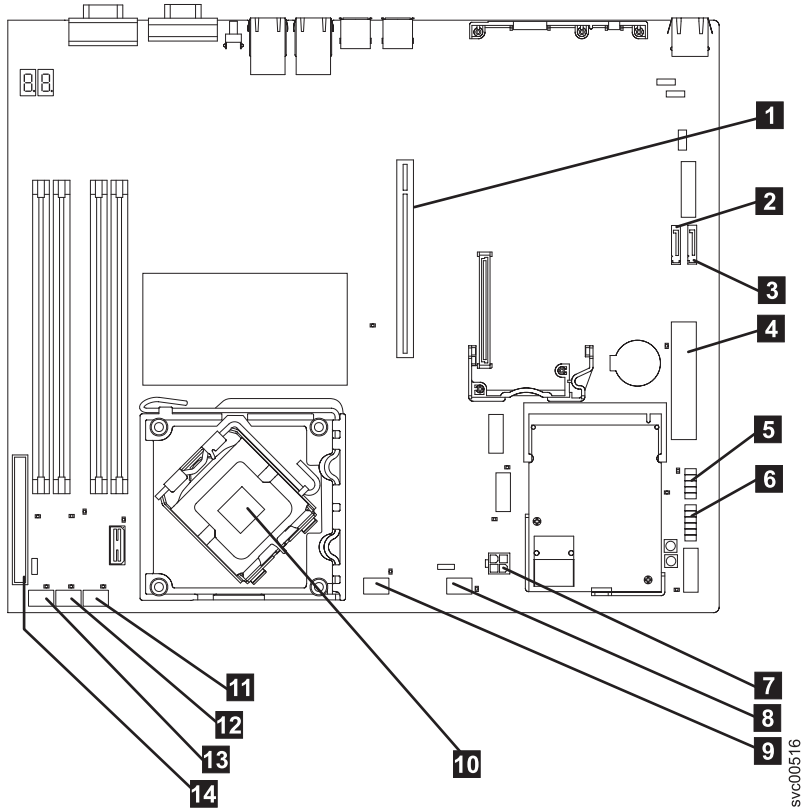

Figure 275. Connectors that are used on the SAN Volume Controller 2145-8A4 system board
7. Mark the cables to ensure that you know where each one goes. Figure 275 on page 276 shows the connectors on the SAN Volume Controller 2145-8A4 system board.